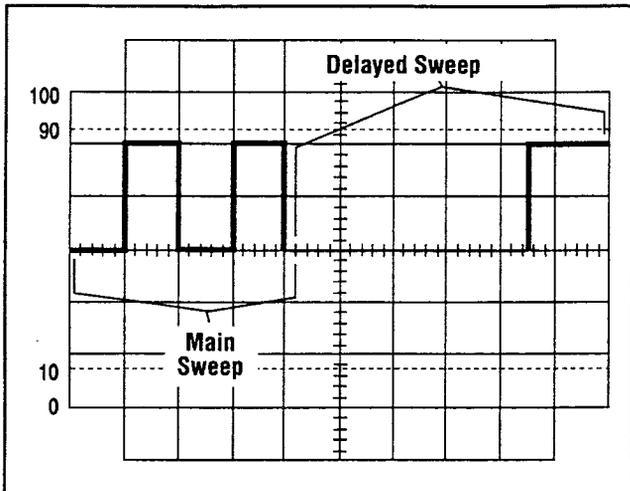

Fig. 5. MIX SWEEP MODE Display.
DELAYED SWEEP OPERATION (Model 2125A) (Refer to Fig. 5)
2. Set the **Sweep Mode** switch to the **MIX** position. The display will show the main sweep on the left portion (representing the **MAIN Time Base** control setting) and the delayed sweep on the right portion (representing the **DELAY Time Base** control setting). The **MAIN Time Base** portion of the trace usually will be brighter than the delayed time base portion. Fig. 5 shows a typical display for the **MIX** display mode.